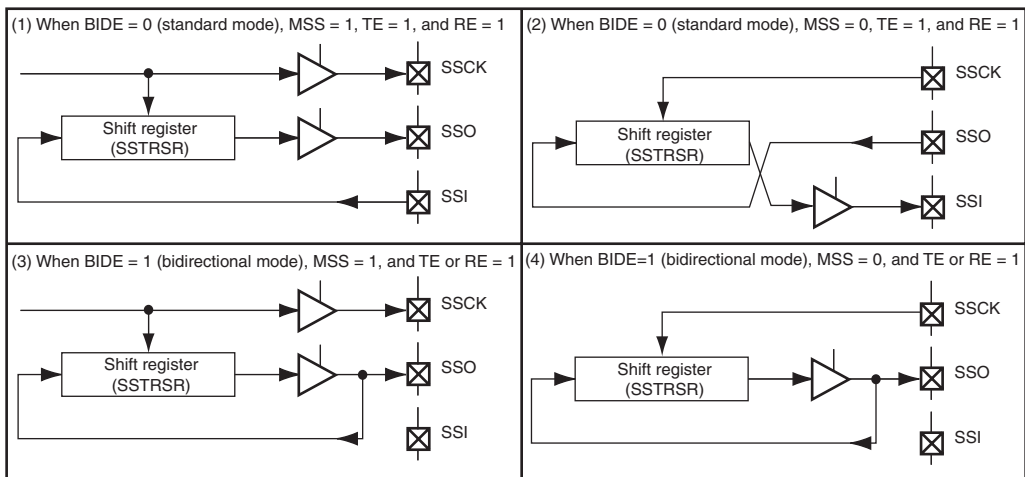

Figure 15.3 Relationship between Data I/O Pins and the Shift Register
The connection between data I/O pins and the shift register (SSTRSR) depends on the combination of the MSS and BIDE bits in SSCRH. Figure 15.3 shows the connection.
The SSU transmits serial data from the SSO pin and receives serial data from the SSI pin when operating with BIDE = 0 and MSS = 1 (standard, master mode) (see figure 15.3 (1)). The SSU transmits serial data from the SSI pin and receives serial data from the SSO pin when operating with BIDE = 0 and MSS = 0 (standard, slave mode) (see figure 15.3 (2)).
The SSU transmits and receives serial data from the SSO pin regardless of master or slave mode when operating with BIDE = 1 (bidirectional mode) (see figure 15.3 (3) and (4)).